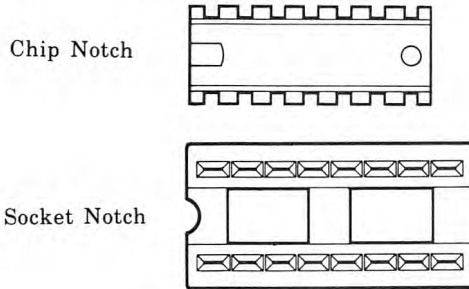

Figure 2-3. Location of chip and socket notches.
4. Align the notch on the chip with the notch on the socket. See Fig. 2-3. **Note: If either the chip or socket have no notch, position the chip so that the wording on its back is in line with the wording on memory chips that are already installed.**